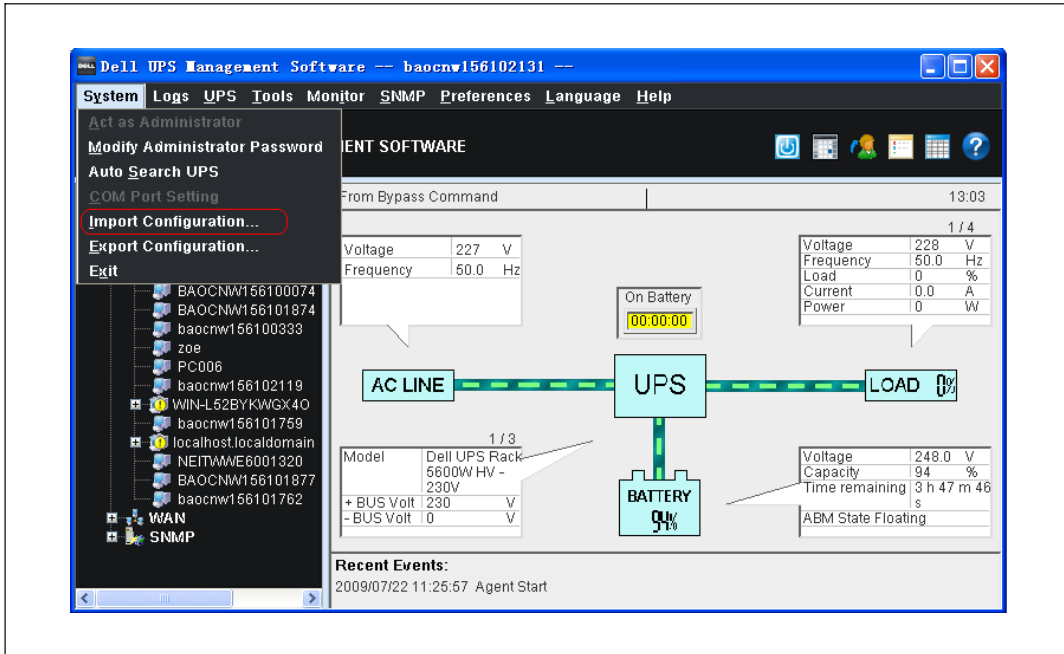

Figure 105. Import Configuration
- 3 From the new Agent, select **Import Configuration** from the **System** menu (see Figure 105).